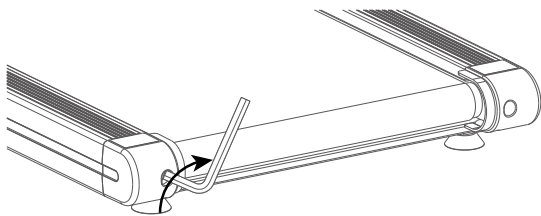

Figure 1
- 2.1 If the walk belt has shifted to the left, use the hex tool to turn the left idler roller screw clockwise by 1/4 turn (refer to figure 1).